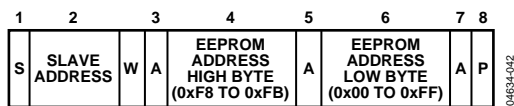

Figure 32. Setting an EEPROM Address
- To set up a 2-byte EEPROM address for a subsequent read, write, block read, block write, or page erase. In this case, the command byte is the high byte of EEPROM Address 0xF8 to EEPROM Address 0xFB. The only data byte is the low byte of the EEPROM address, as shown in Figure 32.